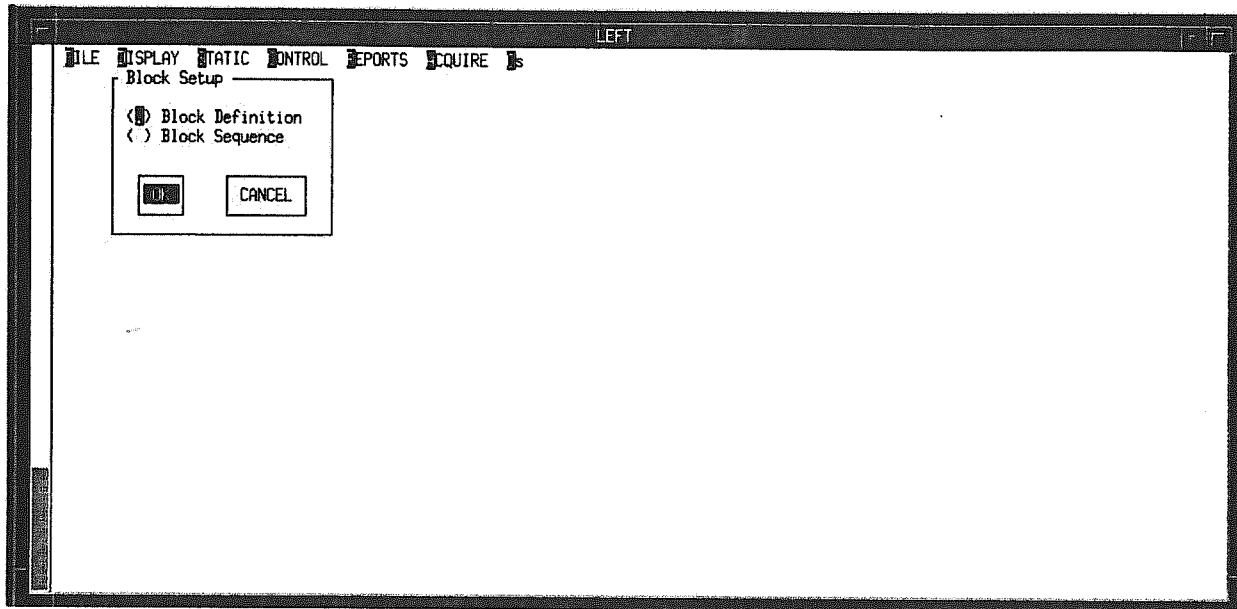

Figure 4-12 - Block Definition/Selection Dialog Box
Step 3: Select Block Setup from the DISPLAY pull down menu. A dialog box shown in Figure 4-12 appears. This dialog box gives you two options. Select "Block Definition" and press RETURN.
Step 4: When you have finished defining all of the individual Blocks, select Block Setup from the DISPLAY pull down menu. The dialog box shown earlier in Figure 4-12 appears again. This time select "Block Sequence" and press RETURN.